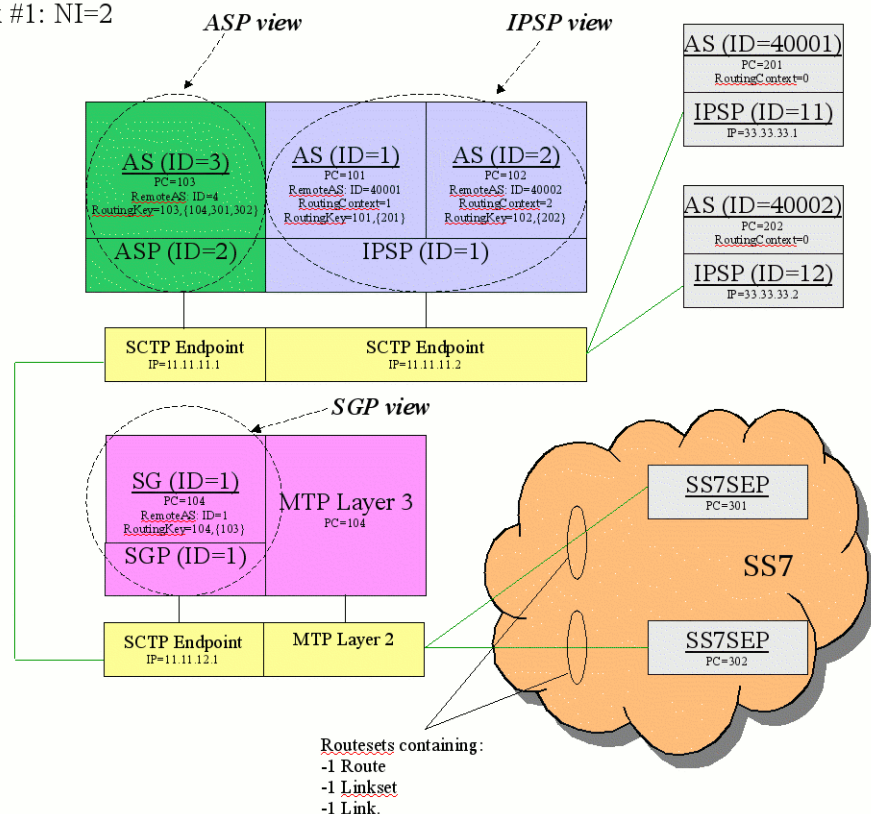
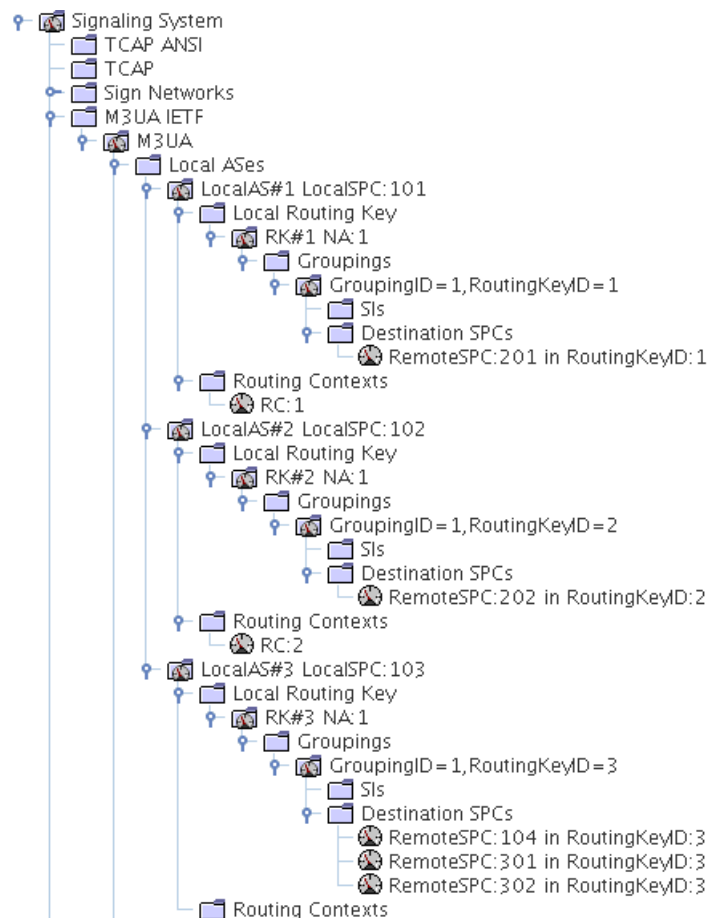

Figure 1 Network Configuration Example
Figure 4 LocalAS#1, LocalAS#2 and LocalAS#3 is created along with RoutingKeys and Groupings.
The example in Section 2.1 on page 5 shows how to configure an ASP/IPSP node for M3UA. The ASP view and the IPSP view in Figure 1 are configured. The SGP view is remote in this case. The configured node handles both IPSP to IPSP communication as well as ASP to SGP communication. There are two AS:es that are served by the same IPSP, and one AS that is served by an ASP. The example continues in Section 2.2 on page 17 where it is shown how to configure the MTP-L3 part in the ASP/IPSP node.
The example in Section 2.3 on page 21 shows how to configure an SGP/STP node. The SGP view in Figure 1 and the STP MTP-L3 part are configured. The ASP and IPSP views are remote in this case. The SGP-view is configured to relay between the IP network and the SS7 network. The SG communicates with a Remote AS and the MTP Layer 3 handles the SS7 communication.
- The point codes (PC) and IP addresses in this document are examples only, which must be replaced in a real world configuration.
- The configuration in Figure 1 is a simplified configuration example that lacks redundancy. In a real world configuration redundant associations should be configured to avoid loss of traffic during software upgrade or similar. To configure redundant associations one more SCTP FE need to be configured in a similar way as shown in the example. The Remote sides need to support the redundant associations in the second FE by having one more Remote IPSP per Remote AS. There should be one more SG that provides alternative routes to the SS7SEP:s (301 and 302 in the example). There should be one more Remote SGP per SG.
For the ASP/IPSP node the following point codes (PC:s) from Figure 1 shall be created:
When configuring the ASP and IPSP views in Figure 1 the SGP view will be remote, which means that the following LocalSP:s shall be created:
The three Local AS:es in the ASP and IPSP views in Figure 1 shall be created (see also Figure 4 for the goal of this section):
The two Remote AS:es with PC=201 and 202 in Figure 1 shall be created. The property Routing Context (RC) in each Remote AS can be set to zero, which means not used, since there is only one Remote AS per Remote IPSP in the example:
Two Remote SP:s of type IPSP, that are remote to the IPSP view in Figure 1, shall be created:
2. Update the property **Remote SP ID** to 11, since the **Remote SP** cannot use the same ID as the **Remote SGP** in Figure 1.